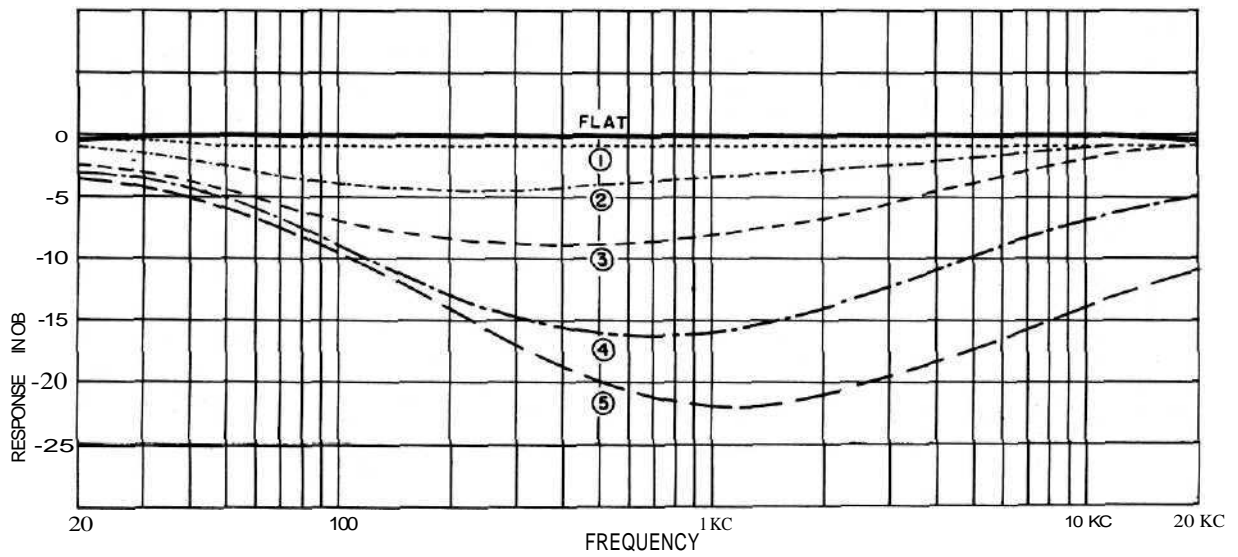

Figure 13. LOUDNESS Control
**LOUDNESS CONTROL.** Due to a selective shift in sensitivity of the human hearing, music reproduced at very low volume loses its bass and treble. The family of curves showing this effect are known as Fletcher-Munson curves. (See Figure 13.) The LOUDNESS control on the C20 corrects for this effect. When you wish to listen to music at a greatly reduced loudness level and yet hear base and treble, turn the LOUDNESS control to reduce intensity. Some users of the C20 leave the LOUDNESS control at positions 1 or 2 to correct for environmental conditions such as loudspeaker characteristics, room placement, etc.